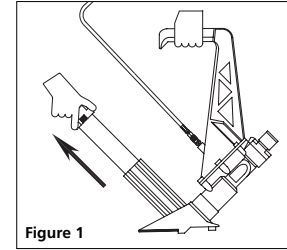

Figure 1
1. Hold the tool firmly, press the lock and pull the magazine door (See figure 1).
1. Hold the tool firmly, press the lock and pull the magazine (See figure 1).